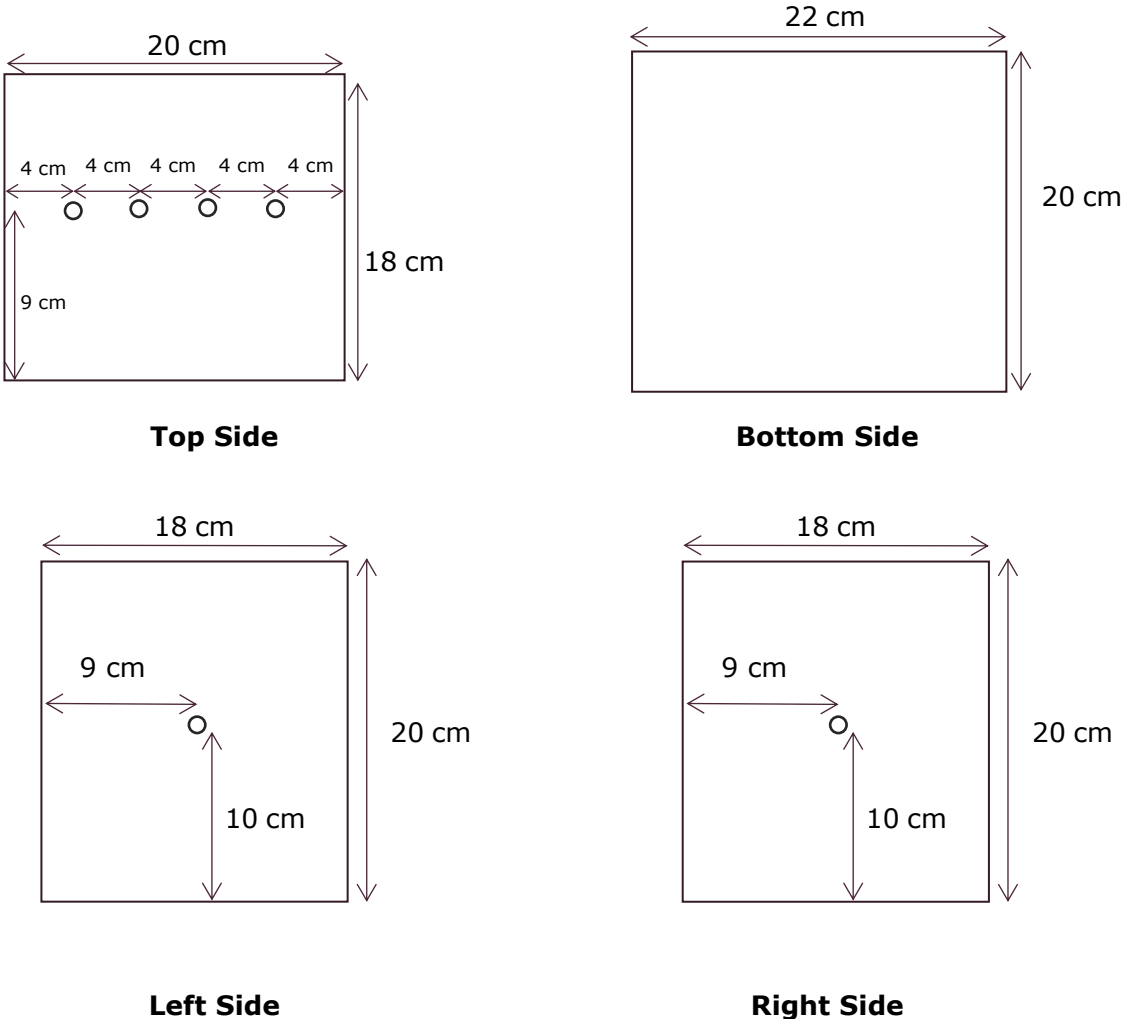

Figure 1: Housing for cam toy
1. **FOUR** pieces of wood for housing to be cut from 15 mm material (e.g. plywood or MDF) cut according to the measurements given in Figure 1.